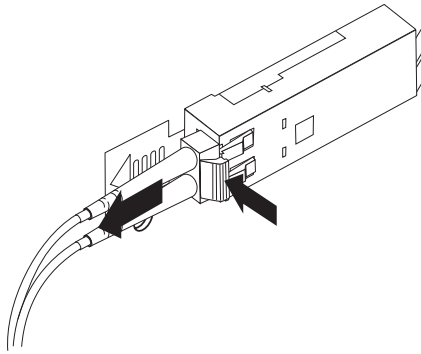

Figure 32. Removing the LC-LC fibre-channel cable
2. Carefully pull on the connector to remove the cable from the SFP module, as shown in Figure 32 on page 46.